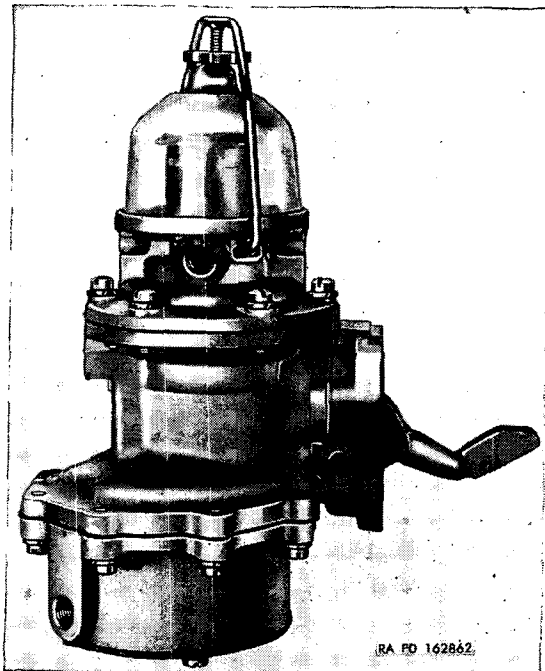

Figure 36. Fuel pump, series AM.
- (1) Mark edges of fuel cover and body diaphragm flanges of series AM fuel and vacuum pump (fig. 36) with a file. Mark at heat shield stud, if used. The parts may then be assembled in the same relative position. Note that the fuel diaphragm flange is symmetrical and the vacuum diaphragm flange has bulges where the screw holes occur.
- (2) Remove fuel cover screws and lock washers. Also remove heat shield stud if used. Separate cover from body by jarring cover loose with a light plastic hammer.